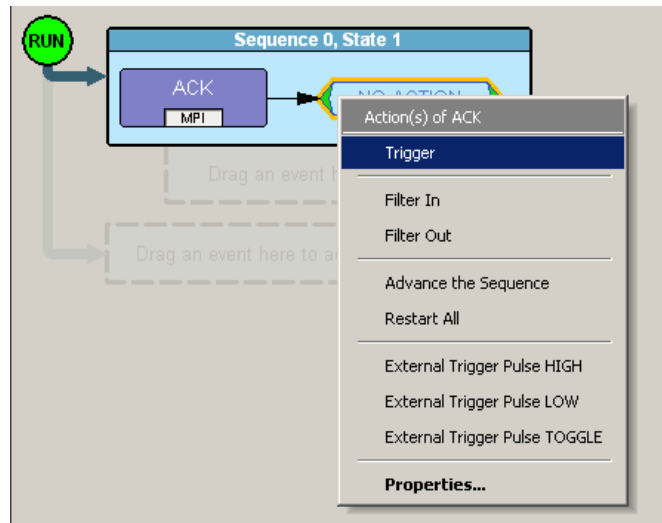

Figure 7.20 Example 1: Assigning the Action
Step 4 Right-click the button. From the Action pop-up menu, select **Trigger** (Figure 7.20).